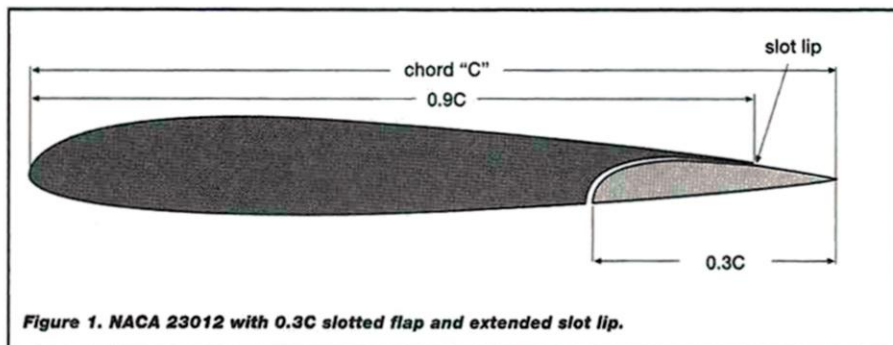

Figure 1. NACA 23012 with 0.3C slotted flap and extended slot lip.
To detail flap design, Fig. 1 shows a
**Figure 1.** A 50 percent setting cuts the amount of travel in half simply by flipping a switch. More expensive systems can be made to switch automatically depending on the position of another control such as throttle stick!
Figure 1 shows how dual rates affect the servos' response. You can observe this effect by programming in a dual rate, holding full control stick and flipping the activating switch back and forth: the control should move between full travel and less than full travel. Dual rates just reduce the normal response to the percentage that is programmed. For example, if 50 percent dual rate is selected, the servo